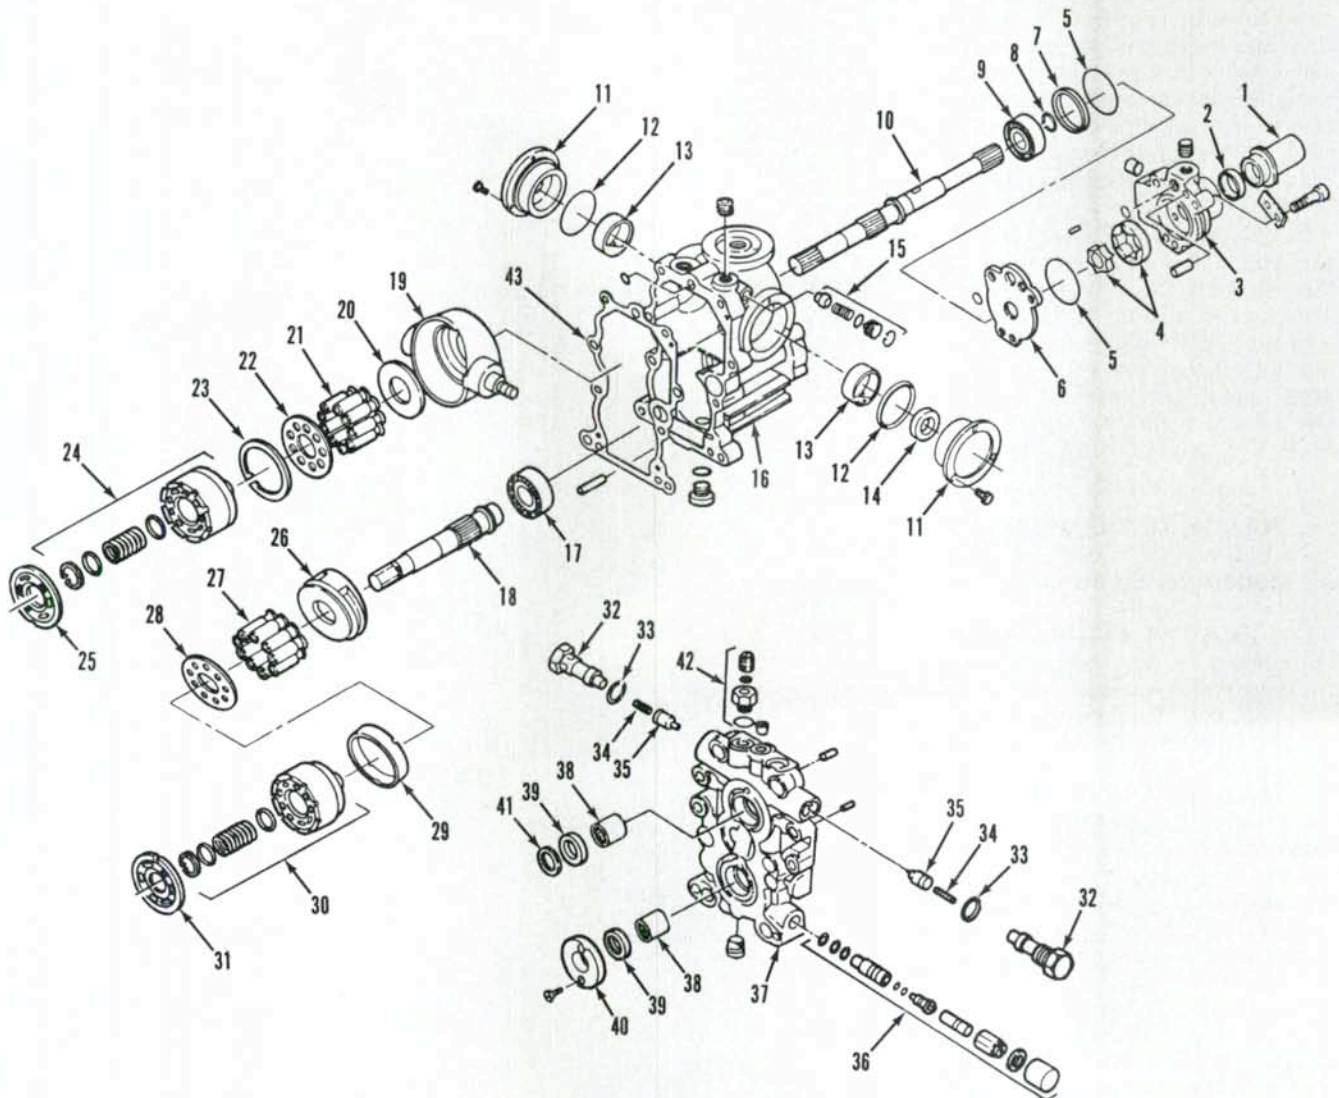

Fig. 187—Exploded view of hydrostatic drive unit.
If necessary to adjust the relief valve, the tractor must be separated between engine and clutch housing as outlined in paragraph 101 for access to relief valve (5-Fig. 180) adjusting screw. If relief valve is faulty, complete port block assembly (37-Fig. 187) must be renewed.
Charge relief valve setting is not adjustable. If pressure is low, check for plugged suction filter, faulty relief valve (15-Fig. 187), faulty charge pump or faulty cylinder block assemblies.
116. To disassemble, remove allen head screws retaining port block (37—Fig. 187) to hydrostatic case (16). Separate port block from case being
Install valve port plates (25 and 31) onto cylinder blocks with brass side facing the cylinder blocks. Note that pump port plate has feathering notches (N—Fig. 188) cut in ends of port passages and is not interchangeable with motor port plate. Install port block (37—Fig. 187) and tighten mounting bolts evenly to 31-38 N·m (23-28 ft.-lbs.) torque.